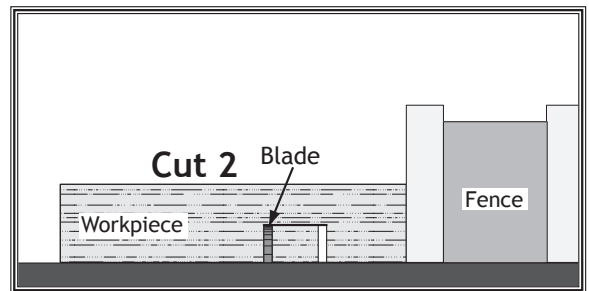

Figure 62. Single-blade dado second cut.
7. Re-adjust the fence so the blade is aligned with the other edge of the intended dado channel (**Figure 62**).